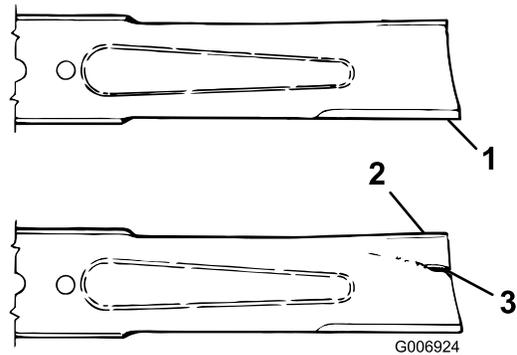

Figure 72
2. Examine the cutting ends of the blade carefully, especially where the flat and curved parts of the blade meet (Figure 72). Since sand and abrasive material can wear away the metal that connects the flat and curved parts of the blade, check the blade before using the
machine. If wear is noticed (Figure 72), replace the blade; refer to Removing the Cutter Blade.
If the blade is allowed to wear, a slot will form between the sail and flat part of the blade (Figure 72). Eventually a piece of the blade may break off and be thrown from under the housing, possibly resulting in serious injury to yourself or bystanders.